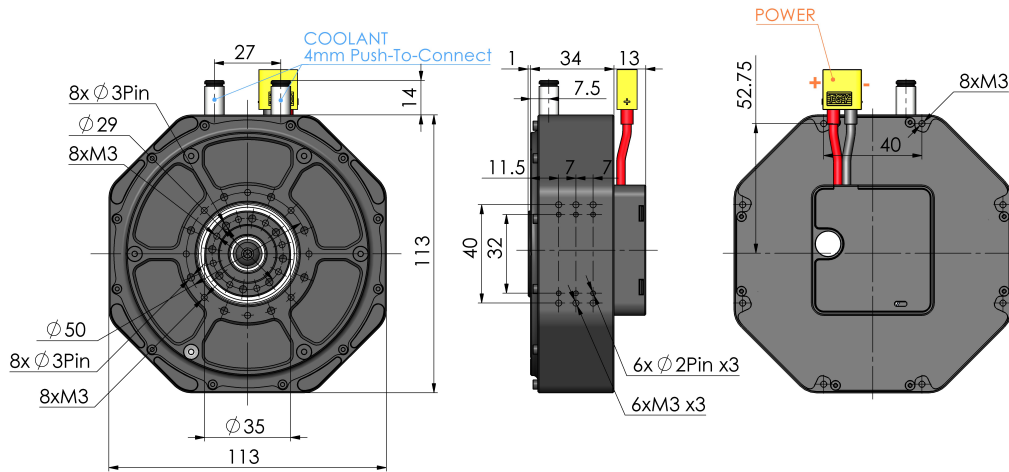

Figure 3: Panda BEAR V2 Specs
With the right balance of torque, weight, and form factor, Panda BEAR V2(PB02) and Panda BEAR Plus V2(PB02P) are our most versatile units. Their excellent dynamic performance and payload capability make them well suited for diverse applications ranging from legged mobile robots to service and entertainment robots. Both PB02 and PB02P share identical mechanical, electrical, and thermal management features, as detailed in the following, with the help of figure 3.
- **Mechanical Features** The dimensions and locations of mounting features are annotated as in figure 3. There are eight M3 screw holes and eight 3mm pin holes on the output shaft for locating and connecting the payload. The eight M3 screw holes and 3mm pin holes located on the front side as well as the six M3 screw holes and six 2mm pin holes on each of the three sides can all be used to locate and mount PB02 to its application. Besides, there are also eight M3 screw holes on the back that are axisymmetric about the output shaft, and these eight M3 screw holes can also be used as mounting points or to mount additional bearings under certain application.